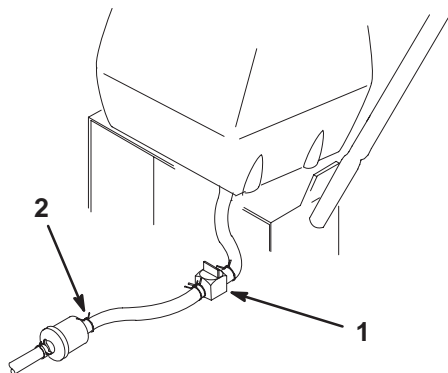

Figure 42
2. Close fuel shut-off valve at fuel tank (Fig. 42).
3. Squeeze the ends of the hose clamp together and slide it up the fuel line away from fuel filter (Fig. 42).
4. Pull the fuel line off the fuel filter (Fig. 42). Open fuel shut-off valve and allow gasoline to drain into a gas can or drain pan.
3. Close fuel shut-off valve at fuel tank (Fig. 42).
7. Open fuel shut-off valve at fuel tank (Fig. 42).